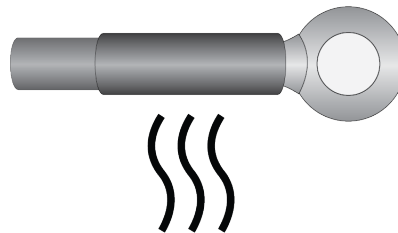

Figure 45. Heating the Heat-Shrink Tube
- Heat the heat-shrink tube to secure it on the wire and ring terminal lug. Refer to Figure 45.